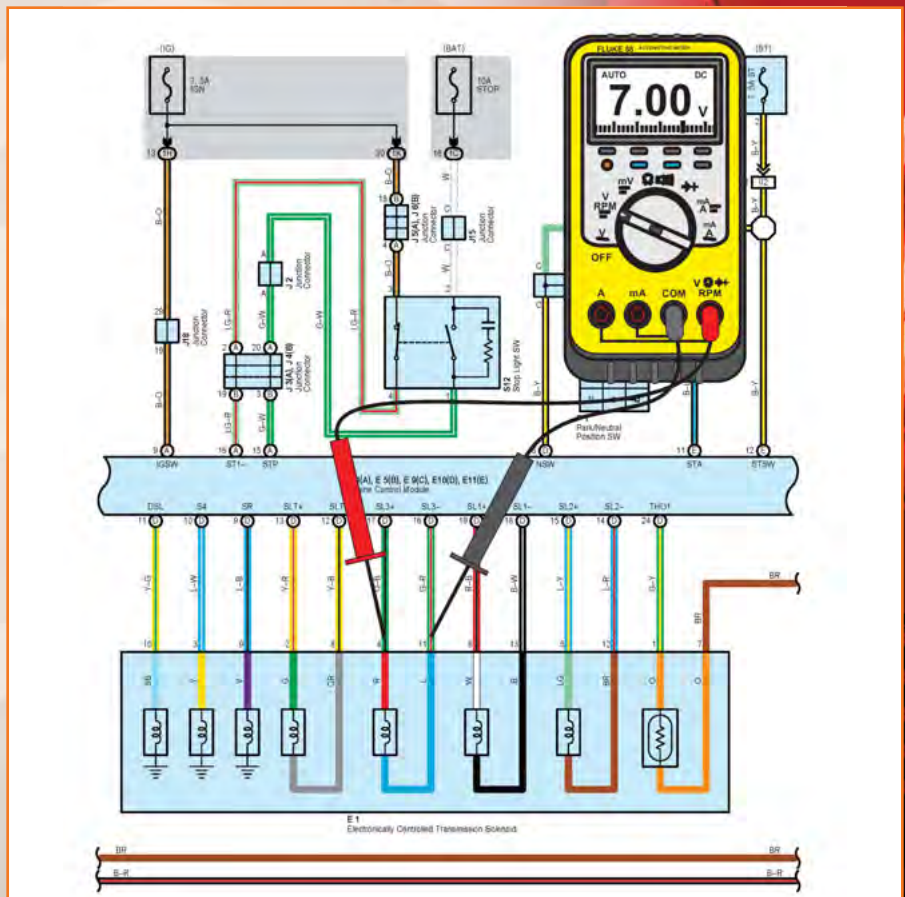

Figure 5
- Connect your positive lead to terminal 4 and the negative lead to terminal 11 (figure 5).